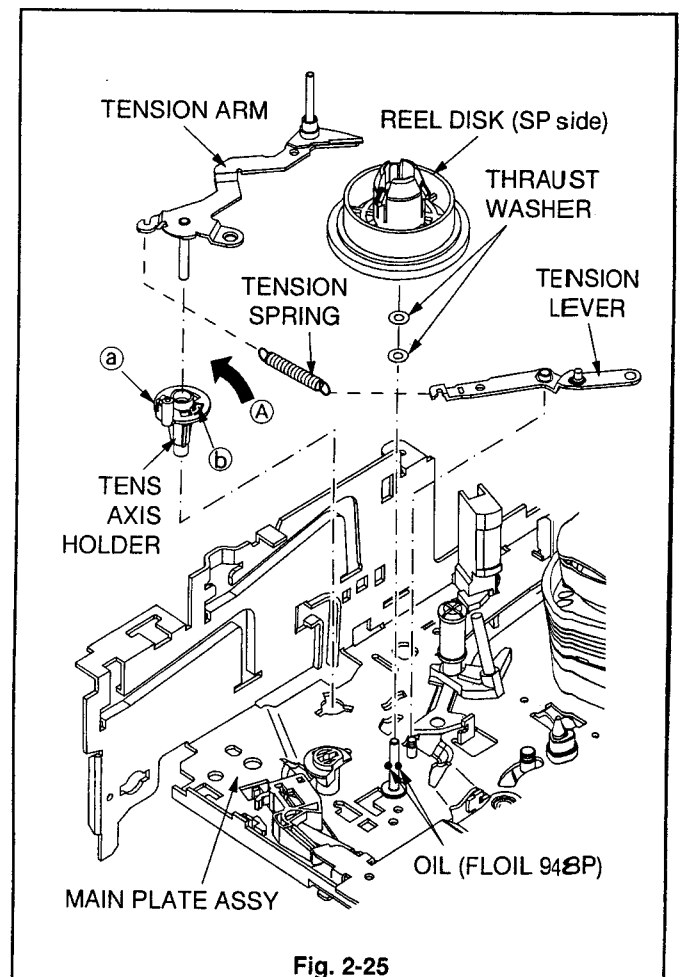

Fig. 2-25
1. Remove the TENSION SPRING shown in the Fig. 2-25.
2. Release the catch (a) of the TENS AXIS HOLDER shown in the Fig. 2-25 to remove the TENSION ARM.
3. Remove the TENSION LEVER shown in the Fig. 2-25.
4. Release the catch (b) of the TENS AXIS HOLDER shown in the Fig. 2-25. Move the TENS AXIS HOLDER in the direction shown by the arrow (A) to remove it.
1. Apply OIL (FLOIL 948P) [859D154O20] to the parts on the MAIN PLATE ASSY specified in the Fig. 2-25.